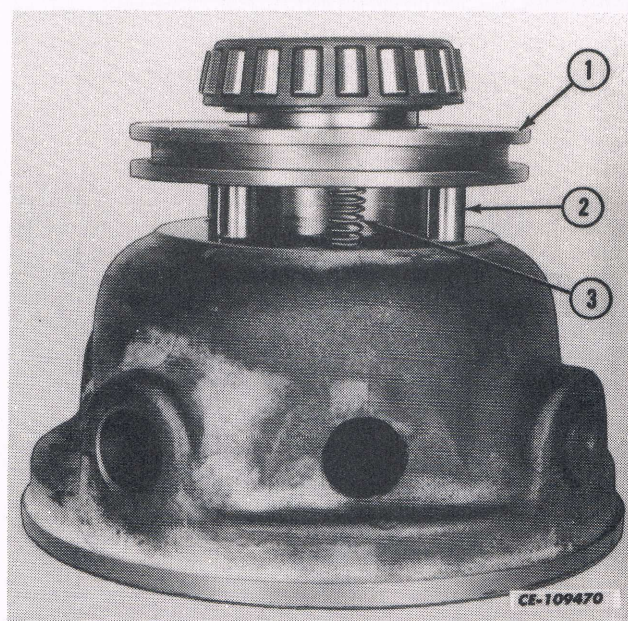

Fig. 14
4. Install the differential lock ring (1) with its springs (3) and coupling pins (2) on the hub of the differential carrier. See Fig. 14.